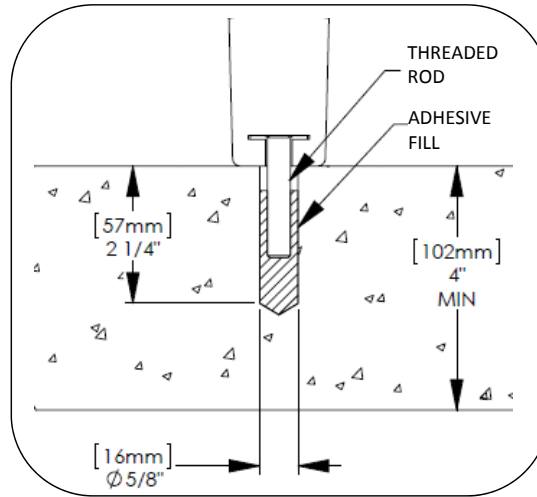

Fig. 2
4. Move unit and drill holes according to anchor adhesive manufacturer's recommendations or Fig. 2. Clear holes of debris.